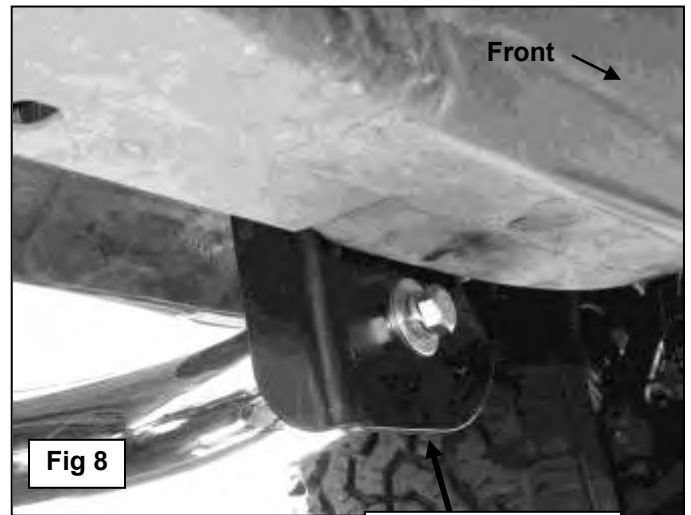

Fig 8
5. Carefully unwrap the driver Sidebar. Bolt the Sidebar to the Mounting Brackets using the included (2) 1/2" x 2" Hex Bolts, (2) 1/2" Lock Washers and (2) 1/2" Flat Washers, **(Figure 8)**. **IMPORTANT:** Curved end of Sidebar will bolt to front Bracket and 90-degree bent end will bolt to rear Bracket. Leave loose at this time.
7. Repeat **Steps 2 – 6** to install the passenger Sidebar onto the vehicle. **NOTE:** Use the provided (1) 1/2" x 4" Bolt Plate to secure the passenger side Front Bracket to the frame channel.